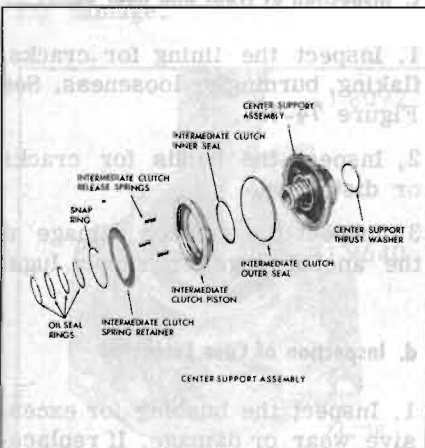

Figure 74-713
1. Inspect the roller clutch inner race for scratches or indentations. Be sure the lubrication hole is open. See Figure 74-713.